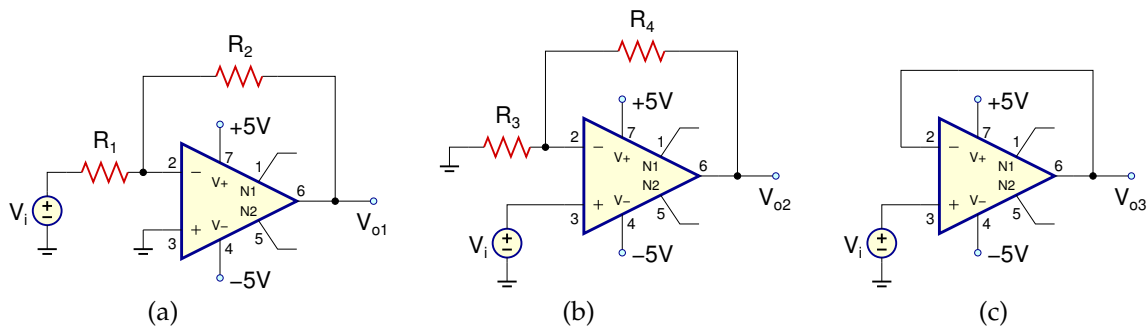
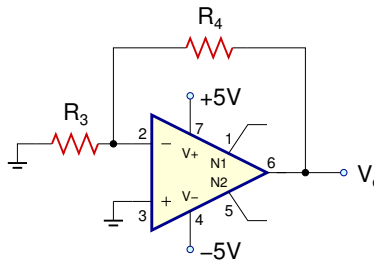

Figure 1: Opamp configurations (a) Inverting amplifier (b) Non-inverting amplifier (c) Voltage follower
Figure 3: Offset Voltage Measurement Configuration
- Derive the voltage gains $\frac{V_{o1}}{V_i}$, $\frac{V_{o2}}{V_i}$, and $\frac{V_{o3}}{V_i}$ for the circuits in Fig. 1, assume the opamps are ideal.
Draw the schematics for the circuits in Fig. 1 with the calculated component values using the UA741 opamp model. Perform the following simulations for each circuit:
1. Build the circuit in Fig. 3 with the calculated values of R_3 and R_4 . Measure the value of V_o , which is the output offset voltage.
Build the circuits in Fig. 1 with the simulated component values. Perform the following measurements for each circuit:
1. Build the circuits in Fig. 1(a), (b), (c) and Fig. 3 on your breadboard and bring it to your lab session.
4. For the inverting amplifier in Fig. 1(a) and the non-inverting amplifier in Fig. 1(b):
5. For the buffer in Fig. 1(c):
6. For the offset voltage measurement circuit in Fig. 3: